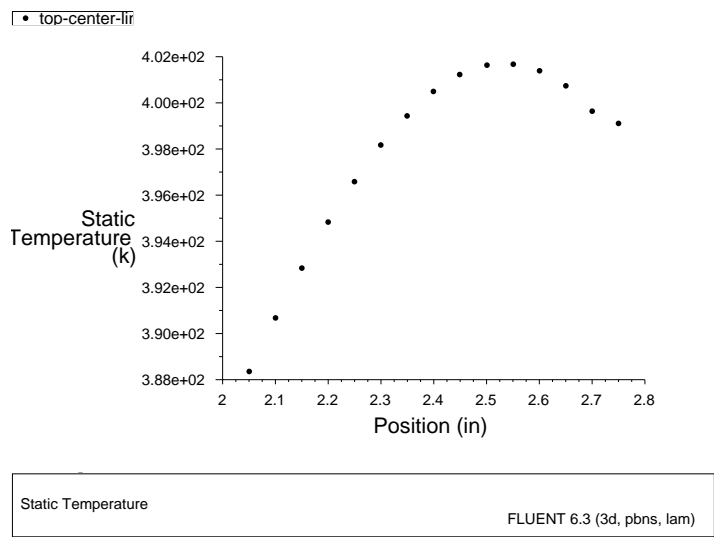

Figure 23.19: Temperature Along the Top Centerline of the Module
- Plot the temperature distribution along the top centerline of the module (Figure 23.19).
The temperature distribution (Figure 23.19) shows the temperature increase across the module surface as the thermal boundary layer develops in the cooling air flow.